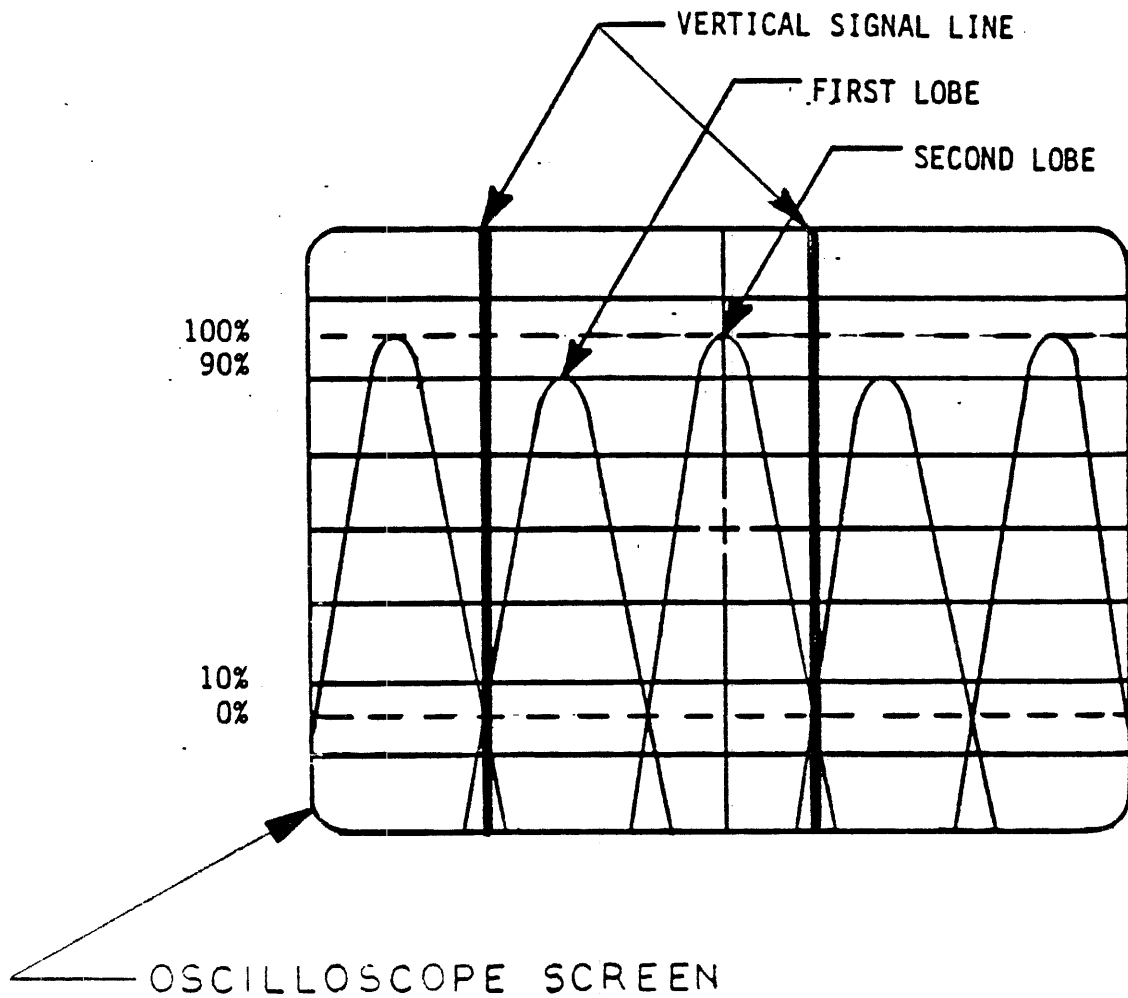

FIGURE 4. THE CORRECT CAT'S EYE WAVEFORM SIGNAL
- 7.2.2 Alternately press "R" on the computer keyboard while turning the adjusting screw on the calibration tool counter-clockwise to attain the "cat's eye" waveform on the oscilloscope screen. (The cat's eye is a term referring to the waveform shape on the oscilloscope that indicates the calibration switch and the heads are correctly aligned. (See Fig. 4.)
- 7.2.4 Observe the cat's eye for differences in amplitude between the first and second lobes. (See Fig. 4.) If the second lobe is higher in amplitude than the first, turn the stepper motor lead screw clockwise while alternately pressing "R." If the second lobe is lower, turn the lead screw counter-clockwise while alternately pressing "R." Perform this adjustment until each waveform amplitude is as close as possible to 100%.